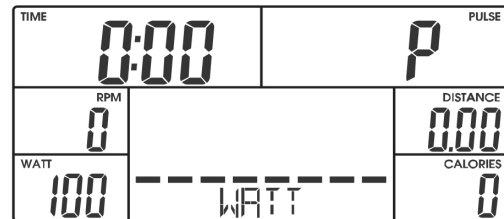

Figure 28
3. Enter the target value in Watt with +/- buttons and confirm with MODE (see fig. 28).